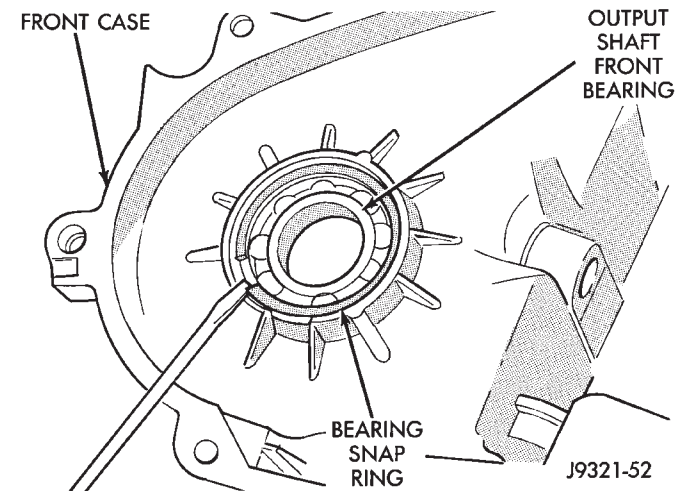

Fig. 41 Output Shaft Front Bearing Snap-Ring Removal
(2) Remove snap-ring that retains front output shaft bearing in front case (Fig. 41).